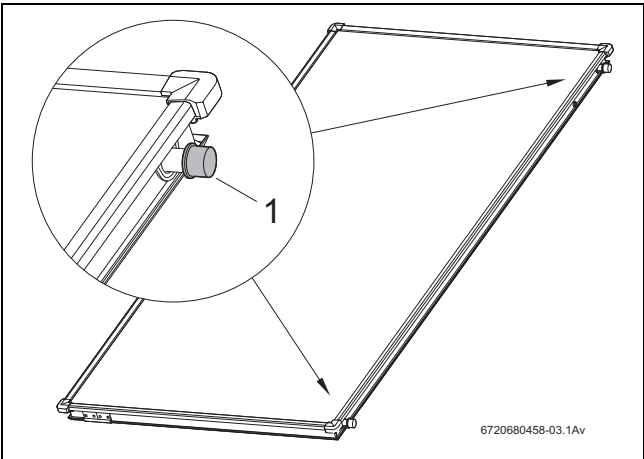

Fig. 4 Plastic caps and collector connections
- ▶ Do not remove the plastic caps (Fig. 4, [1]) until immediately prior to installation.